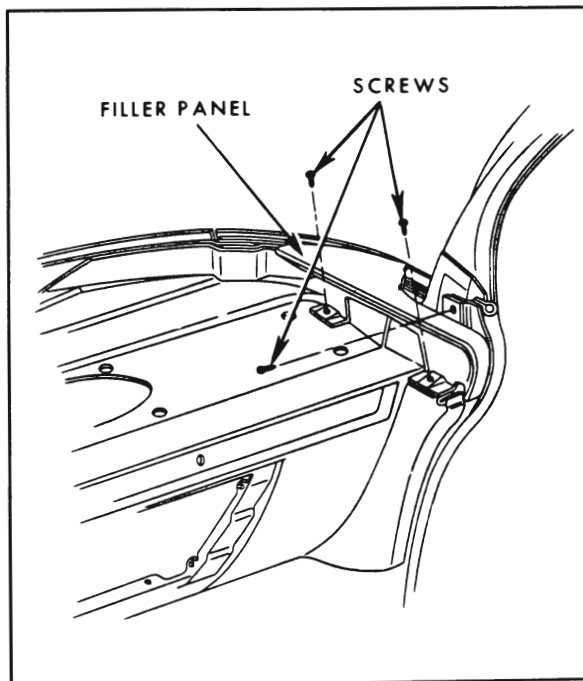

Figure 1-42—Instrument Panel End Filler Panel
2. Remove filler panel attaching screws (Figure 1-42) and remove filler panel.